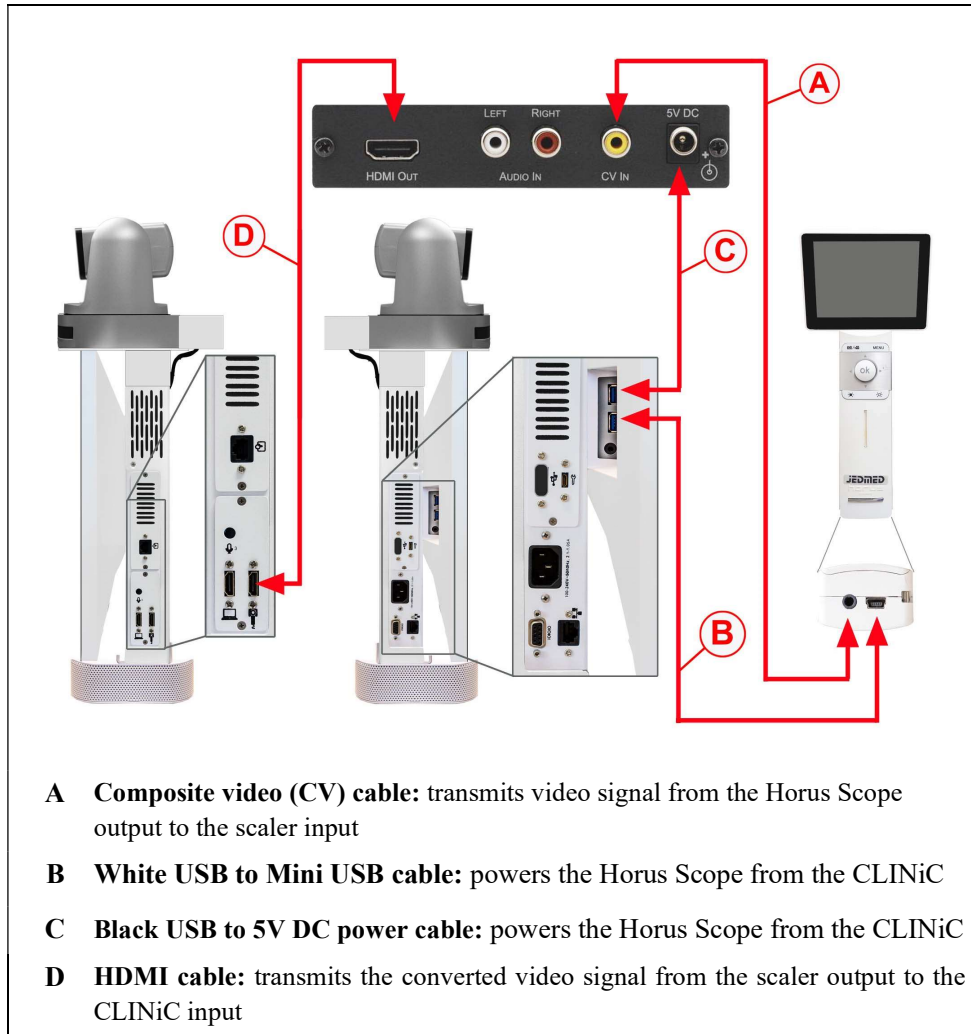

Figure 4. Horus Scope – CLINiC connectivity diagram
The connection diagram between the Horus Scope and the CLINiC through the supplied video scaler, are shown in figure 4 below:
2. Insert the **B2** and **C2** USB connectors of the white and black USB cables into the **E1** and **E2** jackets of the fishing tape. The B2 and C2 USB connectors must be fed through to the CLINiC USB ports using the fishing tape (refer to Figure 4 connectivity diagram).
3. Feed the B2 and C2 ends of the white and black USB cables through the space between the monitor and the CLINiC codec enclosure, from the side of the CLINiC where the cradle assembly is mounted (1), all the way to the other side of the CLINiC where the USB ports are located (2).